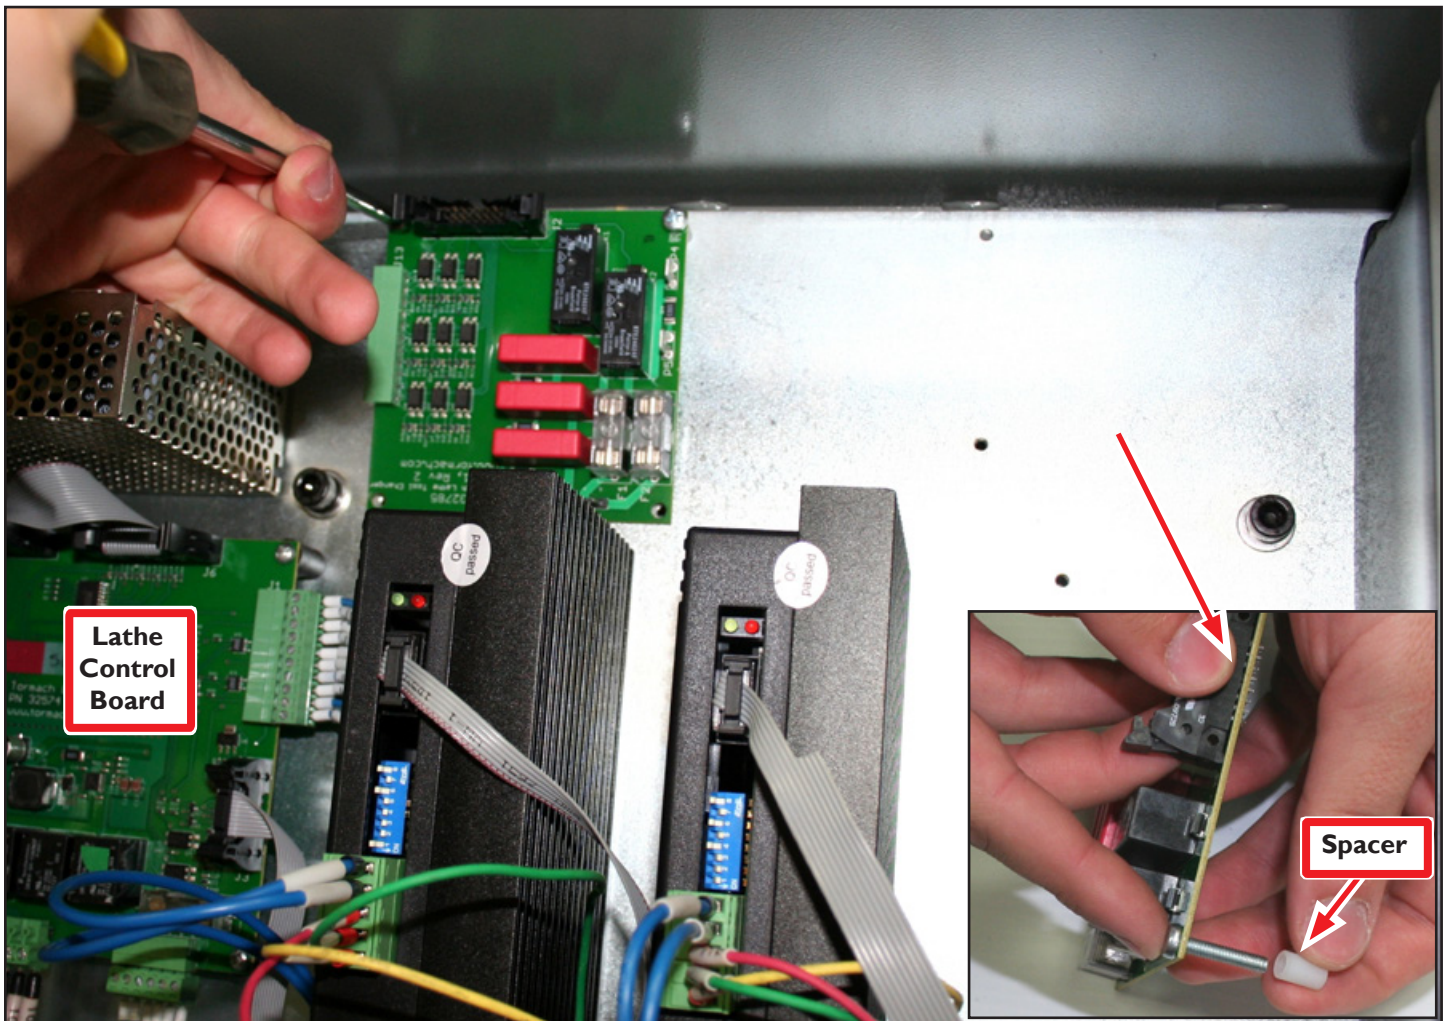

Figure 9
5. Open the electrical cabinet on the side of the lathe. Insert four M4 x 20 mm Phillips Screws through the four corner holes in the Turret Control Board; slide M4 x 10 mm Spacers onto the four screws as shown in **Figure 9 inset**.
6. Attach Turret Control Board to back wall of electrical cabinet via four pre-drilled/tapped holes (see **Figure 9**).